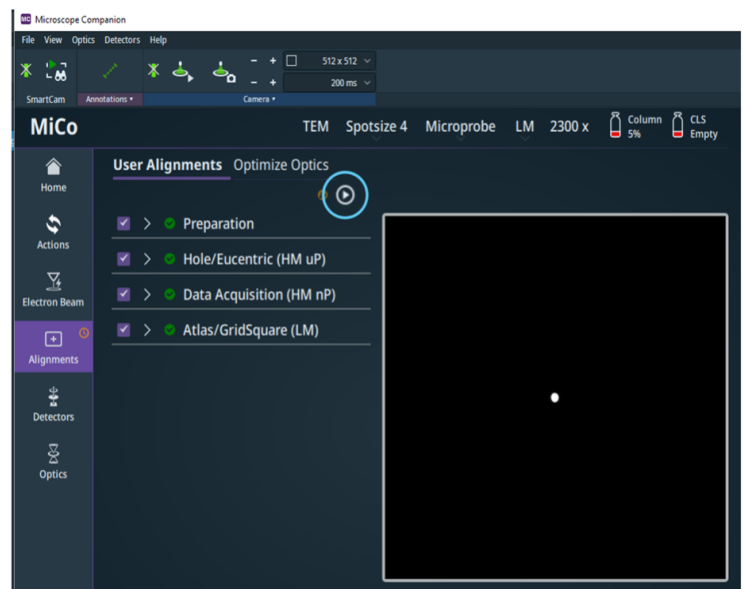

Figure 3. Start the user alignments using the start button, highlighted with the blue circle.
- 4.4.4. In MiCo -> *Alignments* -> *User Alignments*, make sure all checkboxes are selected. Press the play button (Figure 3). Wait for the tasks to run and for each task to be marked as completed with a green check.